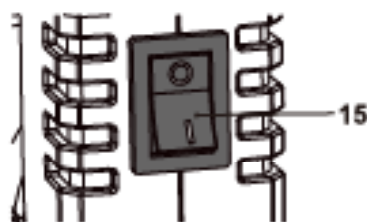

Fig. 4
1. Switch the product on by pressing the on/off switch (15) at "I" marking (Fig. 4).
2. Switch the product off by pressing the on/off switch (15) at "O" marking.